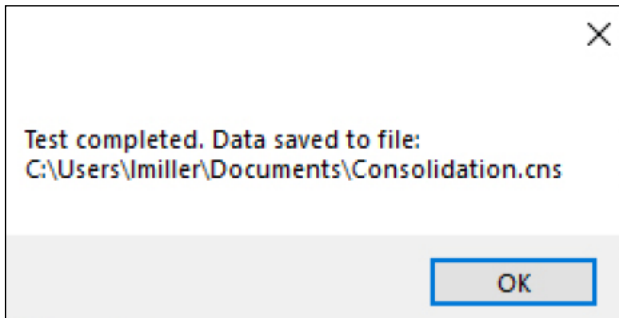

Figure 11: Data Saved to File Dialogue Box
7. At the completion of the final stage select **Stop Test**. A dialogue box confirming the data has been saved to the preselected file will appear (Figure 11). Select **OK** to continue. It is now okay to start a new test or close the program while the final sample height, moist mass, and dry mass are determined. The test data can be reopened later to perform final calculations.